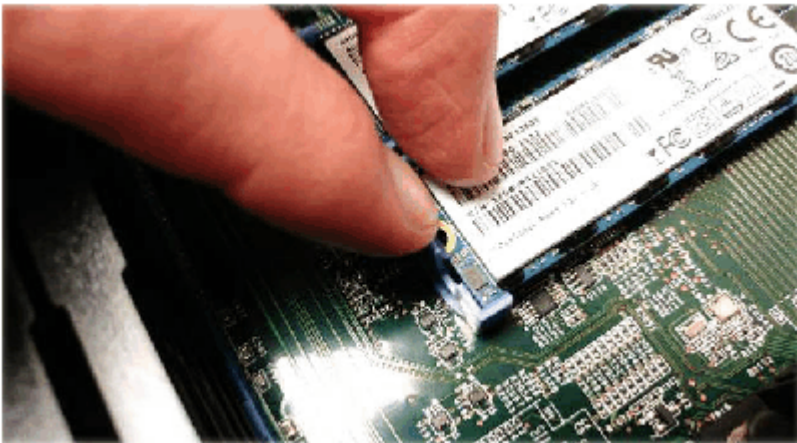

Figure 94. Removing the boot drive
IBM Storage FlashSystem node canisters have dual boot drives. Figure 94 on page 145 and Figure 96 on page 146 show examples of a dual boot system. You can run with one boot drive only, and you get a non-fatal error for the second failed one. See “Procedure: Understanding system volume dependencies” on page 109 to check for dependencies before you shut down the node.
7. Gently open the blue friction latch, as shown in Figure 94 on page 145. Apply gentle pressure; do not force the latch open.